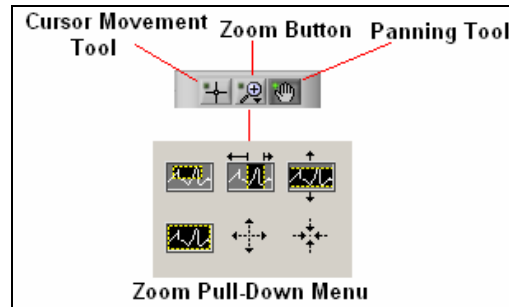

Figure 6.7: Graph Palette Options
- iv. The **Graph Palette** allows the user to place a cursor on the plot with the **Cursor Movement Tool**, zoom in or out on the data with the **Zoom Tools**, and move the graph with the **Panning Tool**. Refer to **Figure 6.7** for the location of these options as well as all the zooming options.